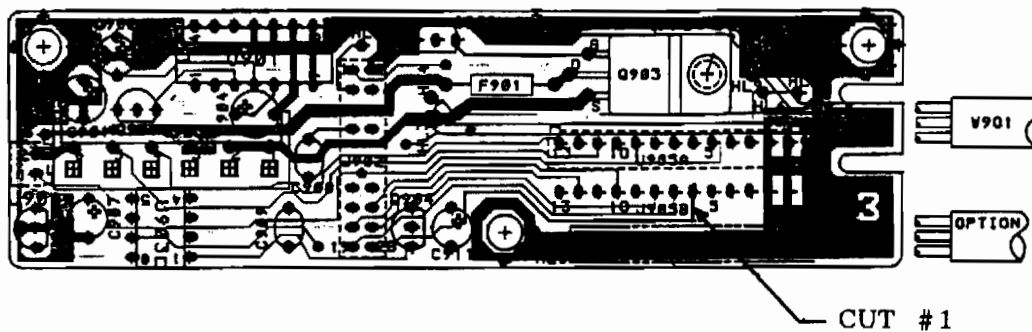

FIGURE 1
1. CUT PATTERN NEAR J905B-6 ON COMPONENT SIDE OF BOARD (SEE FIGURE 1).